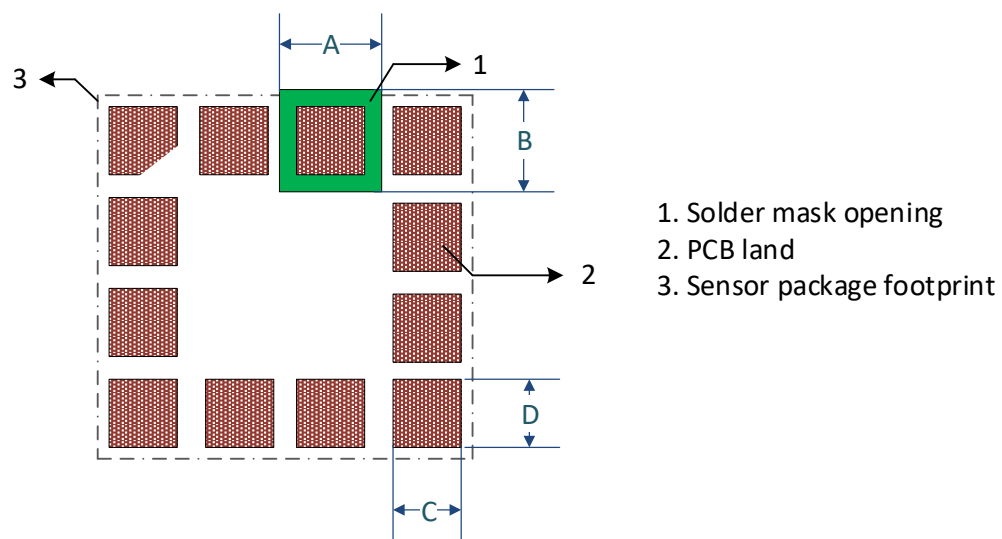

Figure 34: PCB land and solder mask recommendations for sensors with LGA package
- The solder mask opening external to the PCB land is highly recommended. Please refer to figure 34.